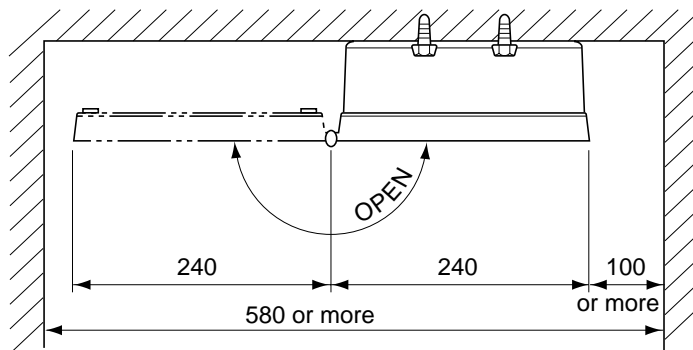

Fig. 2-1 Installation space (top view)
- ① Ambient temperature does not exceed a range of -10°C to $+50^{\circ}\text{C}$. When installing outdoors, attach a shade or put the converter in an outdoor panel to protect it from direct sunlight.
- ② Not exposed to moisture. Even an immersion-proof type is not protected against entry of water. Make arrangements so that water can be drained quickly.
- ③ Not exposed to dust or corrosive gases.
- ④ Free from vibrations and shocks.
- ⑤ Space shown in Fig.2-1 is available for easy inspection and adjustment.